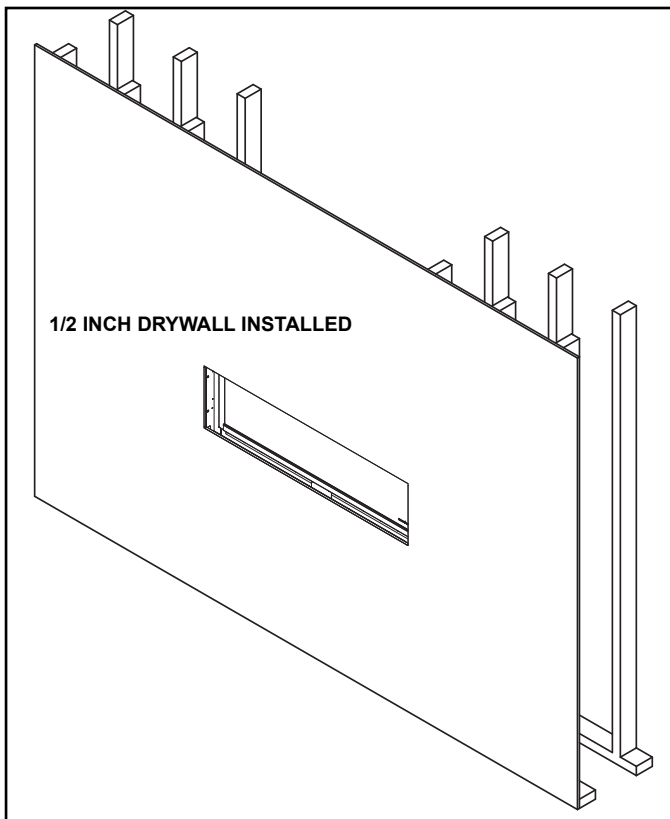
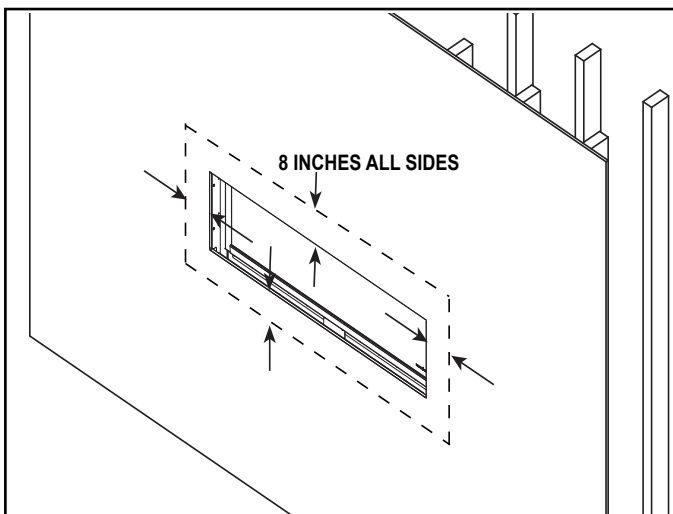

Figure 10.3
Figure 10.4 Feather Joint Compound Evenly
1. Install 1/2 inch drywall on wall. Figure 10.4 shows the PRIMO installed. Drywall (1/2 inch) has been installed up to the top, bottom and sides of appliance opening as shown in Figure 10.3 and 10.4. See Section 10.A for more details regarding facing material.
2. Apply the drywall joint compound. When applying the joint compound, feather it evenly around the opening throughout the zone shown in Figure 10.4. A smooth, even surface, covering a wide area of the wall is desired for best results. For best results, follow the tips below.